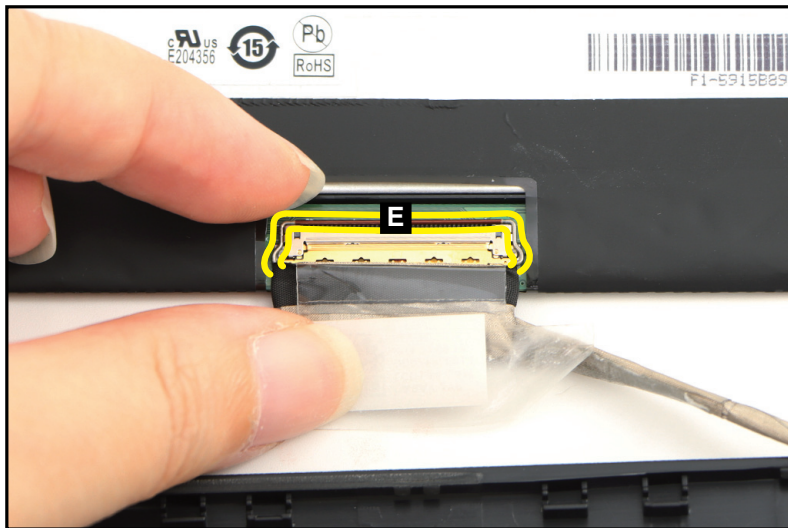

Figure 1-52. LCD Panel Removal
4. Lift the latch (E) securing the eDP cable (Figure 1-52).